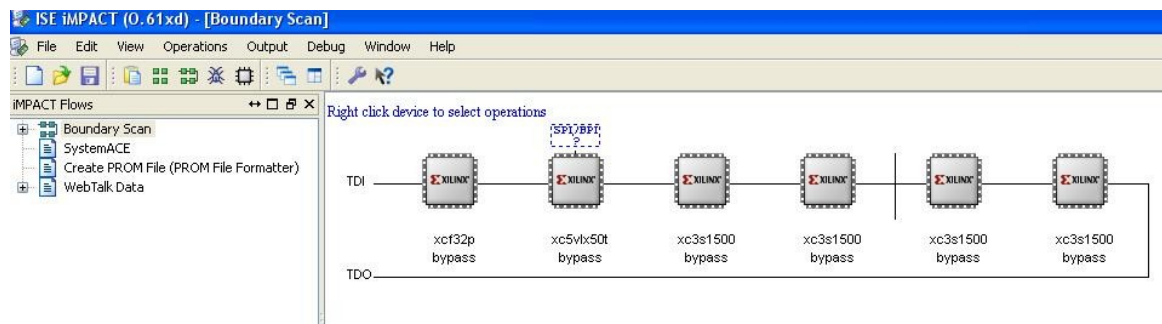

Figure 12: The AVM-16 / AVX-16 FPGA in the JTAG Boundary Chain
- 3- In the iMPACT program, run the "Boundary Scan" and then "initialize chain" from toolbox. A chain with 6 devices has to be appeared (Figure 12)